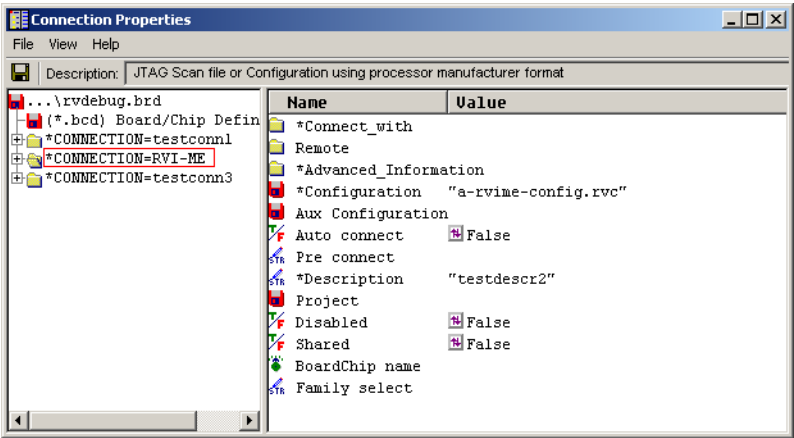

Figure 15-3 CONNECTION groups in the Connection Properties window
4. Select **Connection Properties...** from the context menu to display the Connection Properties window, shown in Figure 15-3.